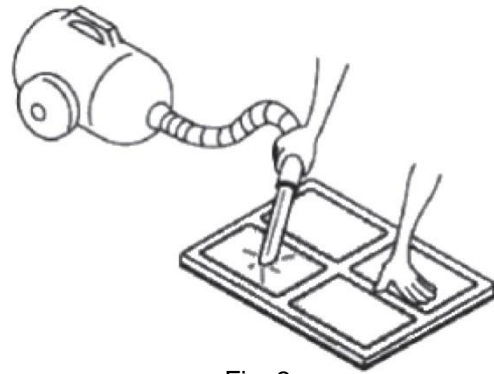

Fig. 2
- It is best to clean the air filter carefully under lukewarm water or with a weakly adjusted (suction power) vacuum cleaner (See Fig. 2).